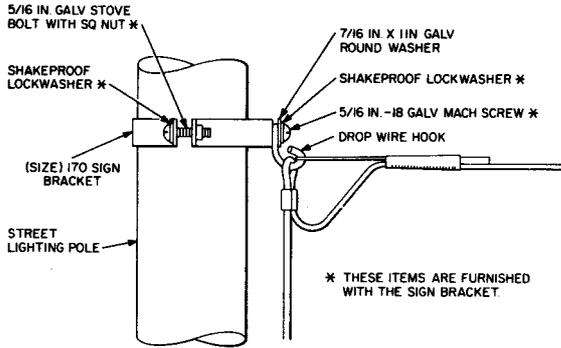

Fig. 7—Attachment to Type 170 Sign Bracket
6.02 Attach drop wire to metal street lighting, traffic signaling, or trolley pole by means of a drop wire hook fastened to a type 170 or 188 sign bracket as illustrated in Fig. 7 and 8. The diameter of the pole determines the type of sign bracket to be used, as follows: